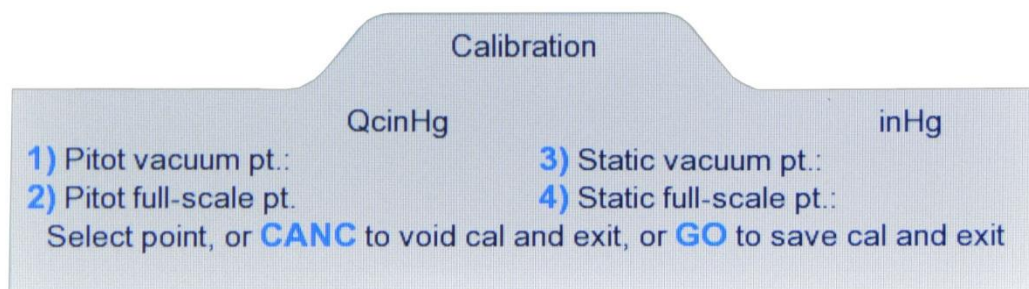

Figure 6.3 : Calibration (Main)
6. Enter '1.600' followed by **ENTER** on the keypad. The highlighted field will be replaced by '1.600'. Press **CLR** to return to the point-selection screen (Figure 6.3). You should see '1.600' on this screen, as the Static vacuum point. This indicates to the 6200 that the absolute pressure on the Static output is currently exactly 1.600 inHg.
9. Enter '0.000' (or simply 0) followed by **ENTER** on the keypad. The highlighted field will be replaced by '0.000'. Press **CLR** to return to the point-selection screen (Figure 6.3). You should see '0.000' on this screen, as the Pitot vacuum point. This indicates to the 6200 that the differential pressure on the Pitot output is currently exactly 0.000 inHg.
12. Enter '15.000' (or simply 15) followed by **ENTER** on the keypad. The highlighted field will be replaced by '15.000'. Press **CLR** to return to the point-selection screen (Figure 6.3). You should see '15.000' on this screen, as the Pitot full-scale point. This indicates to the 6200 that the differential pressure on the Pitot output is currently exactly 15.000 inHg.
15. Enter '32.000' (or simply 32) followed by **ENTER** on the keypad. The highlighted field will be replaced by '32.000'. Press **CLR** to return to the point-selection screen (Figure 6.3). You should see '32.000' on this screen, as the Static full-scale point. This indicates to the 6200 that the absolute pressure on the Static output is currently exactly 32.000 inHg.